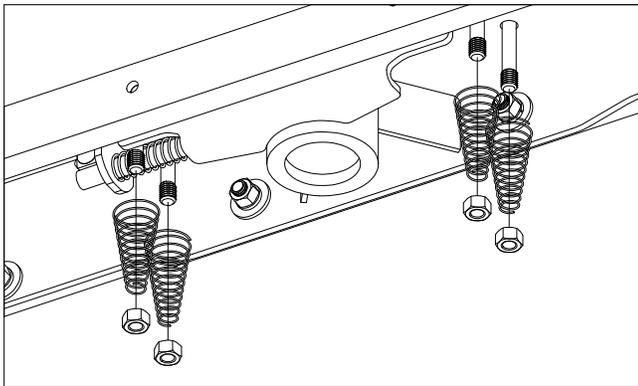

Figure F1: View looking up at center.
3. **Add springs.** Place a conical spring over each leg of the U-bolts and secure with a 1/2" lock nut, see Figure F1. Tighten the lock nut until the nut is flush with the end of the U-bolt.